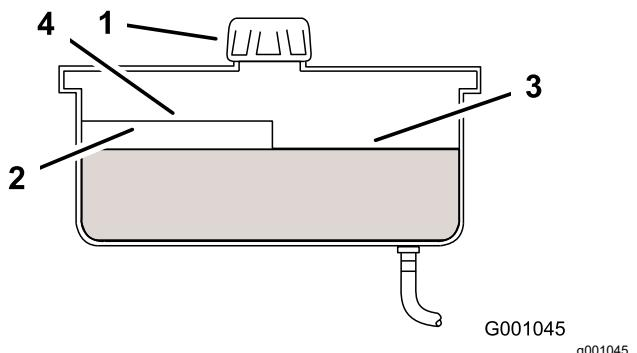

Figure 42
3. Clean the area around the cap and filler neck of the hydraulic tank (Figure 42).
4. Remove the cap from the filler neck. Look inside to check if there is fluid in the reservoir (Figure 42).